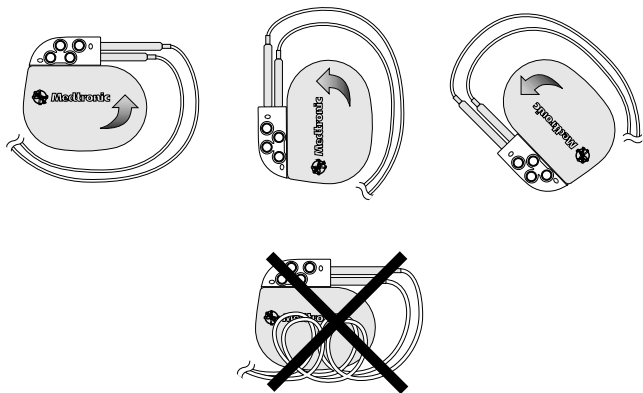

Figure 4. Wrap excess lead wire around the perimeter of the neurostimulator.
5. Refer to Figure 4 to coil excess lead wire loosely around the perimeter of the neurostimulator. Do not wrap more than two times, and ensure that the leads are not twisted or bent sharply.